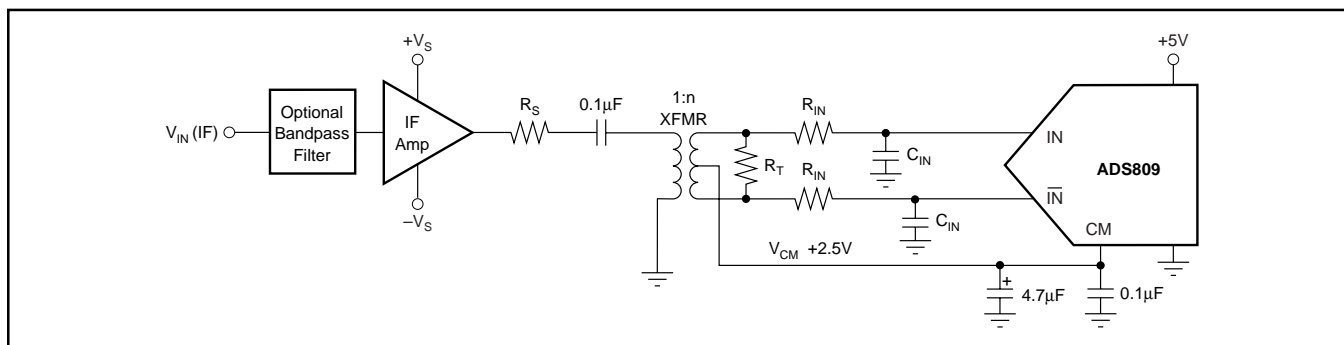

FIGURE 4. Driving the ADS809 with a Low-Distortion RF Amplifier and a Transformer Suited for IF Sampling Applications.
One possible interface solution that uses a transformer is given in Figure 4. The input signal is assumed to be an Intermediate Frequency (IF) and bandpass filtered prior to the IF amplifier. Dedicated IF amplifiers, for example the RF2312 or MAR-6, are fixed-gain broadband amplifiers and feature a very high bandwidth, a low-noise figure, and a high intercept point at the expense of high quiescent currents of 50-120mA. The IF amplifier may be AC-coupled or directly connected to the primary side of the transformer.
Furthermore, the appropriate model must support the targeted distortion level and should not exhibit any core saturation at full-scale voltage levels. Since the transformer does not appreciably load the ladder, its center tap can be directly tied to the CM pin of the converter, as shown in Figure 4. The value of termination resistor (R_T) should be chosen to satisfy the termination requirements of the source impedance (R_S). It can be calculated using the equation $R_T = n^2 \cdot R_S$ to ensure proper impedance matching.